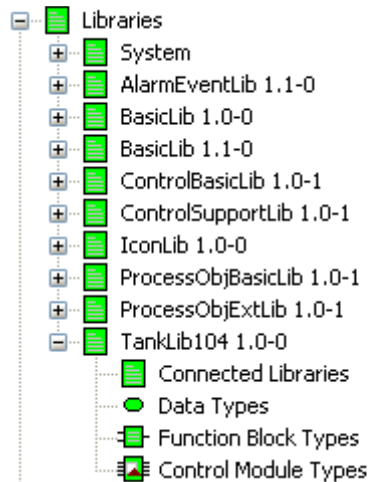

Figure 35. Library with sub folders.
2. You can now add to the library (see Figure 35):